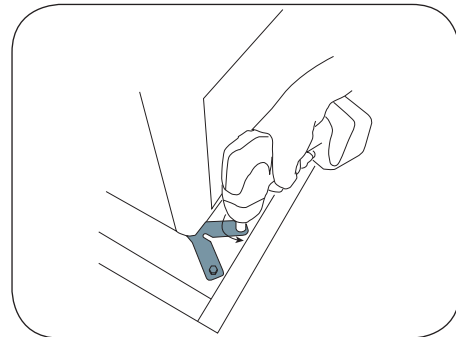

Figure 3. Remove Shipping Brackets
3. Remove the 6 steel shipping brackets securing the table to the pallet, one at each of the four corners and one at the middle on each side of the table (Figure 3). The brackets engage with the table levelers to hold the table securely to the pallet. Remove the 2 bolts from each bracket using a 7/16" socket or wrench. Take care not to scratch the unit when turning the wrench. Remove brackets from levelers once bolts are removed.